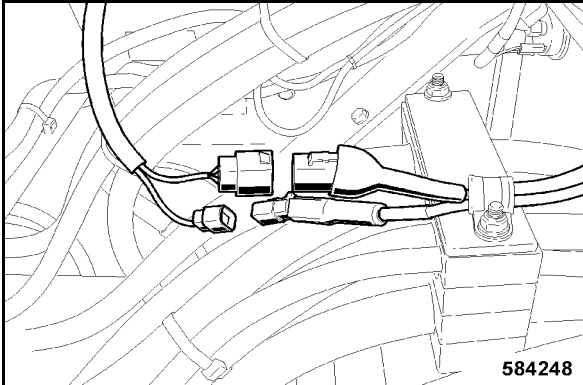

Fig. 230
- Connect the plug connection of the air conditioning system (Fig. 230).